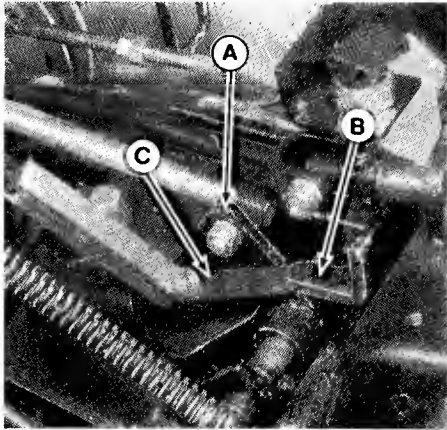
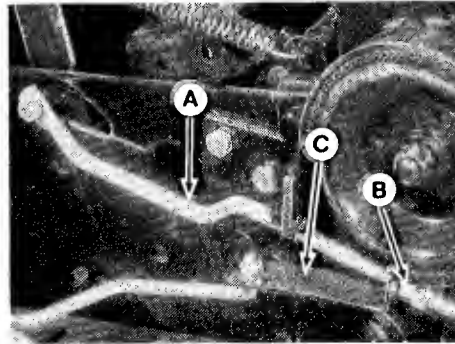

Figure 30. Foot Brake Adjustment - Six Speed
Figure 31. Foot Brake Adjustment - Six Speed
2. To adjust the foot brake, depress the clutch-brake pedal and move the speed range lever until the cam lever (A, figure 30) is under the gate finger (B).
Place a 0.030 inch feeler gauge between the cam lever and the end of the gate finger (figure 30). Release the brake pedal and set the parking brake. Loosen the brake rod jam nuts (figure 31). Turn